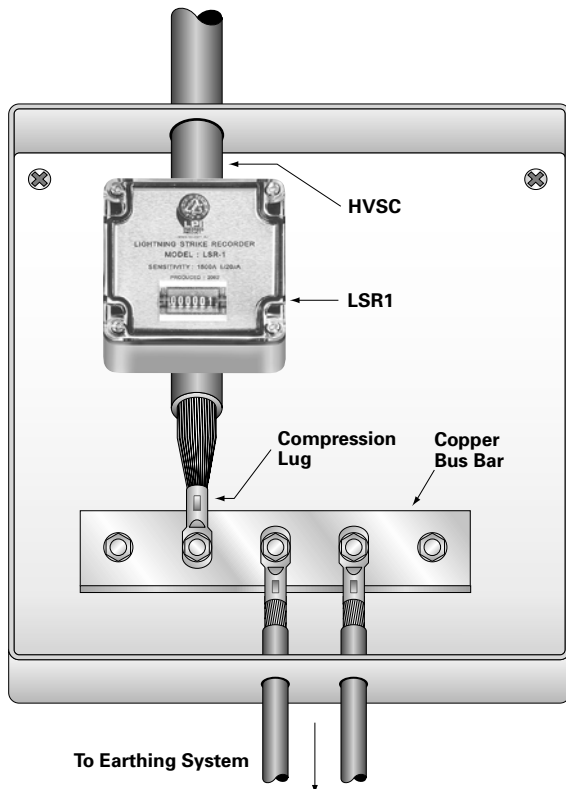

Figure 19.
6. If terminating the lower end of the HVSC to a bus bar then bunch together both inner and outer screen conductors, crimp them together in the crimp lug provided using a compression or mechanical crimping tool and connect the bus bar as per Figure 19.